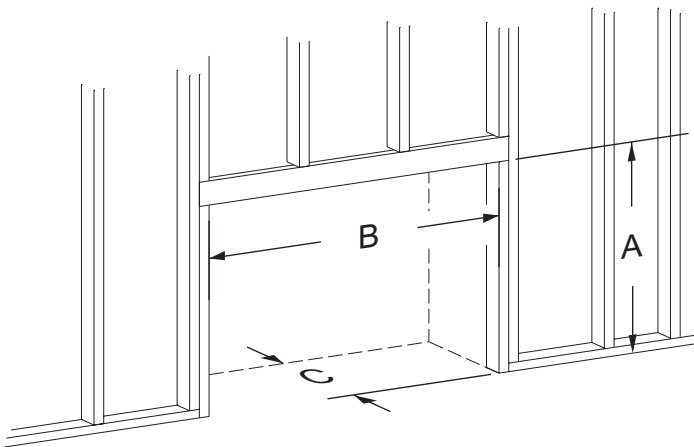

Figure 37 - Rough Opening for Installing in Wall
- Use dimensions shown in **Figure 37** for a conventional rough opening.
| TABLE 3 - FRAMING DIMENSIONS (in inches) FOR FIGURES 37 - 39 | | | | | | |